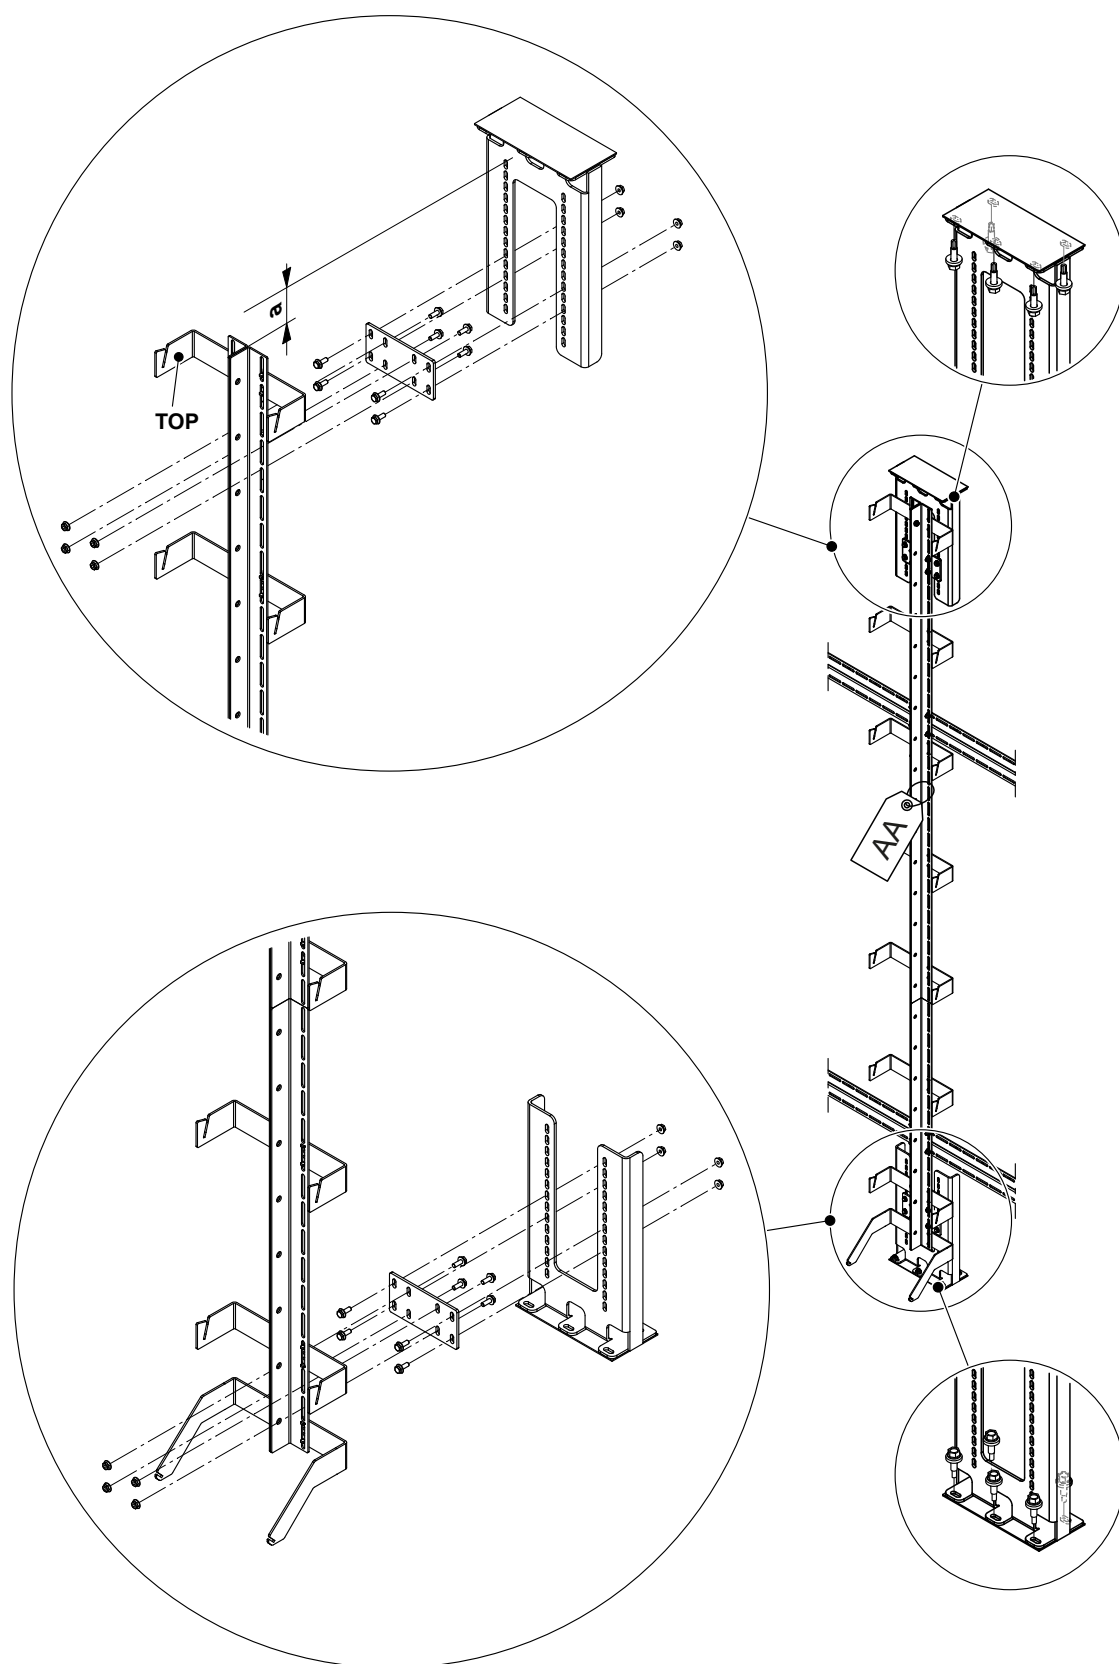

*Fig. 16: Mounting the vertical support(s)*
AA	Vertical supports - post-evaporation unit see <a href="#">Fig. 15 on page 31</a> and <a href="#">Fig. 16 on page 32</a>
- Loosen the two screw connections on the angle bracket of the vertical support(s) and adjust the distance "a" of the lateral support profiles (see details D2 and D3 in Fig. 16) on the angle bracket (see detail D1 in Fig. 16). Then retighten the two screw connections.
- From the front (view in air flow direction) attach the vertical support(s) with the angle bracket on top to the cross members, then shift upwards until it comes to a stop and fix the vertical support(s) four screws M6 x 16 mm and nuts to the cross members (see detail D4 in Fig. 16). Slightly fasten the screw connections only.
- Fix angle bracket of the vertical support(s) with two self-tapping screws 6.3 x 25 mm to the AHU ceiling (see detail D1 in Fig. 16).